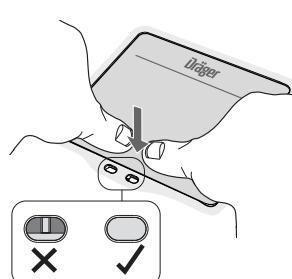

Fig. 40 Locking the power pack
- Use both thumbs to push down firmly in the bottom center of the power pack (Fig. 40).
- Ensure that the 2 sliding latches are engaged when viewed through the 2 keyholes (Fig. 40).